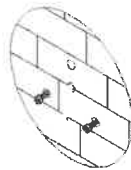

Fig. 2
3. Insert two screws (provided) into the two lower-most mounting hole locations, as shown in **Fig. 2**. Do not tighten the screws fully